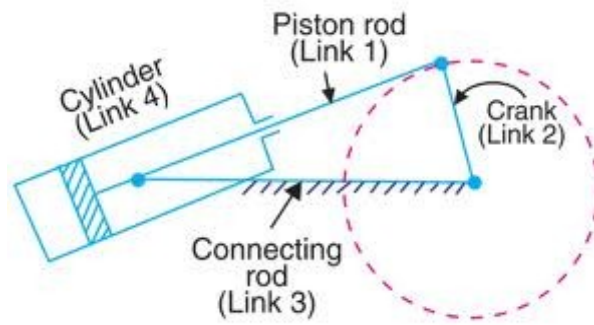

Fig. 1.17
**b) Oscillating cylinder engine :** In this mechanism as shown in fig. 1.17, link 3 is fixed. When the link 2 (crank) rotates, the link 1 (piston rod) reciprocates & link 4 (cylinder) oscillates.